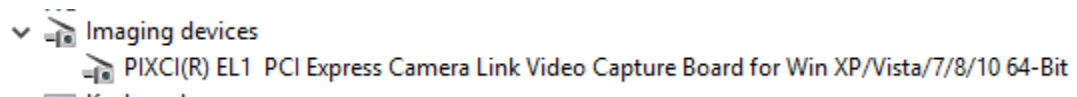

Figure 2: Frame grabber as seen in the device manager
- a. Open Device Manager (type “Device Manager” in the search box). Under “Imaging devices” should be a device called “PIXCI EL1 PCI Express Camera Link ...”. If there is no yellow triangle (see Figure 2) on the bottom right corner of the device’s icon, skip the following steps.